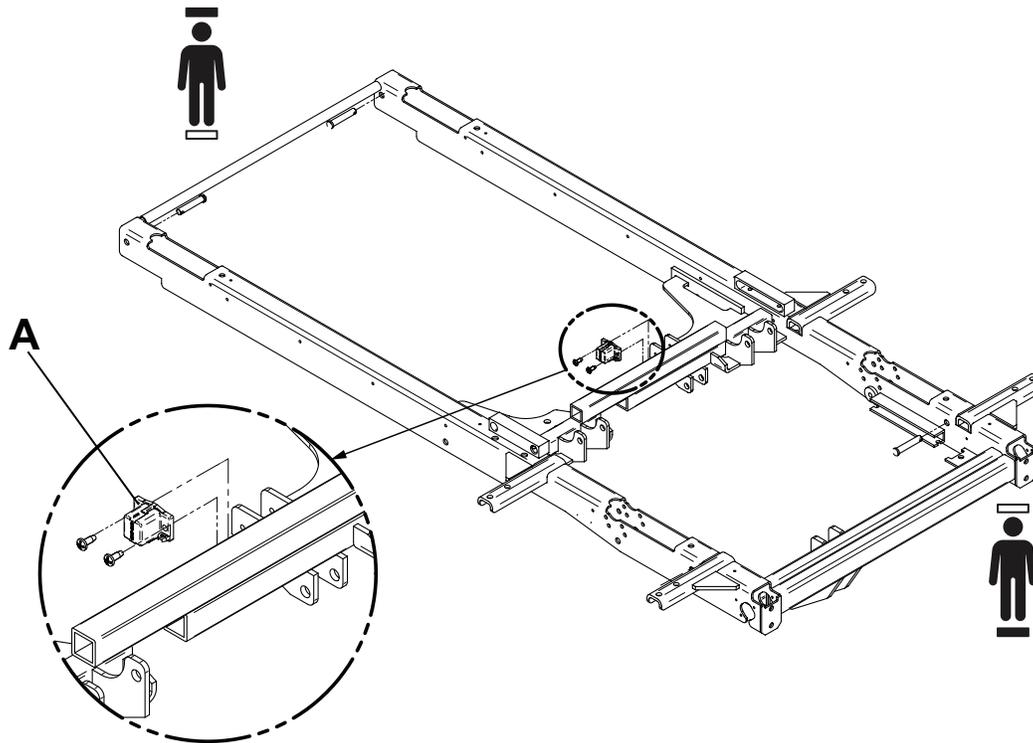

Figure 70 – Trendelenburg angle sensor
3. Working from the patient's right side, use a #2 Phillips short screwdriver to remove the two screws that secure the Trendelenburg angle sensor (A) to the litter frame (Figure 70). Save the screws.